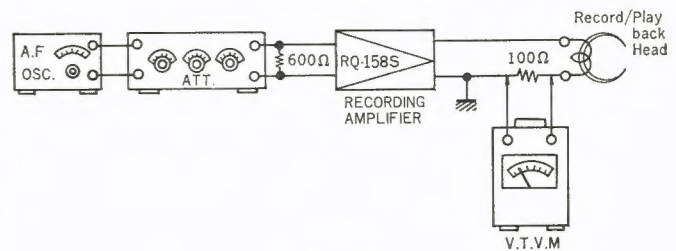

Fig. 6
Measuring Circuit: Refer to Fig. 6.
2. As shown in Fig. 6, connect output of AF Oscillator to Microphone Input Jack of model RQ-158S through Attenuator (terminate with  $600\ \Omega$  if impedance of attenuator is  $600\ \Omega$ ). Disconnect wiring from ground side of Record Head; insert  $100\ \Omega$  resistor between lead wire and terminal; connect V.T.V.M. across resistor.